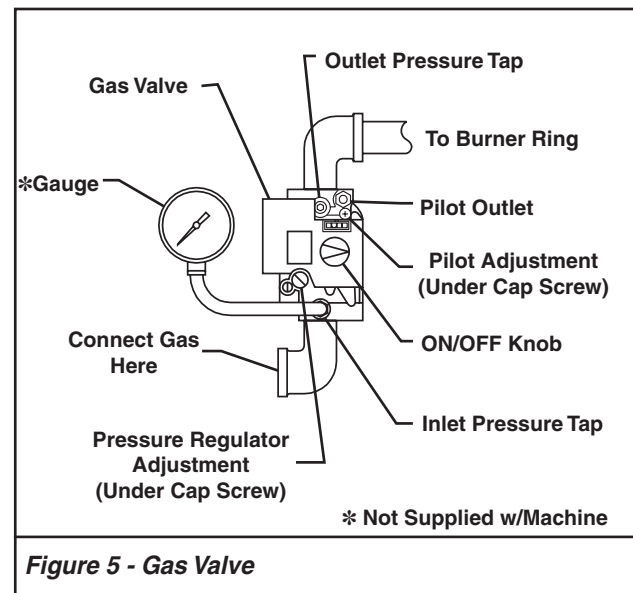

Figure 5 - Gas Valve
- Turn the gas valve ON/OFF knob to the OFF position. Refer to **Figure 5**.
- Connect your natural gas supply to the inlet port of the machine gas plumbing. (Refer to **Figure 5.**)
- Next install the gas gauge or manometer in the outlet pressure tap port of the gas valve. (Refer to **Figure 5.**) This reading will indicate the gas pressure going to the burner ring.